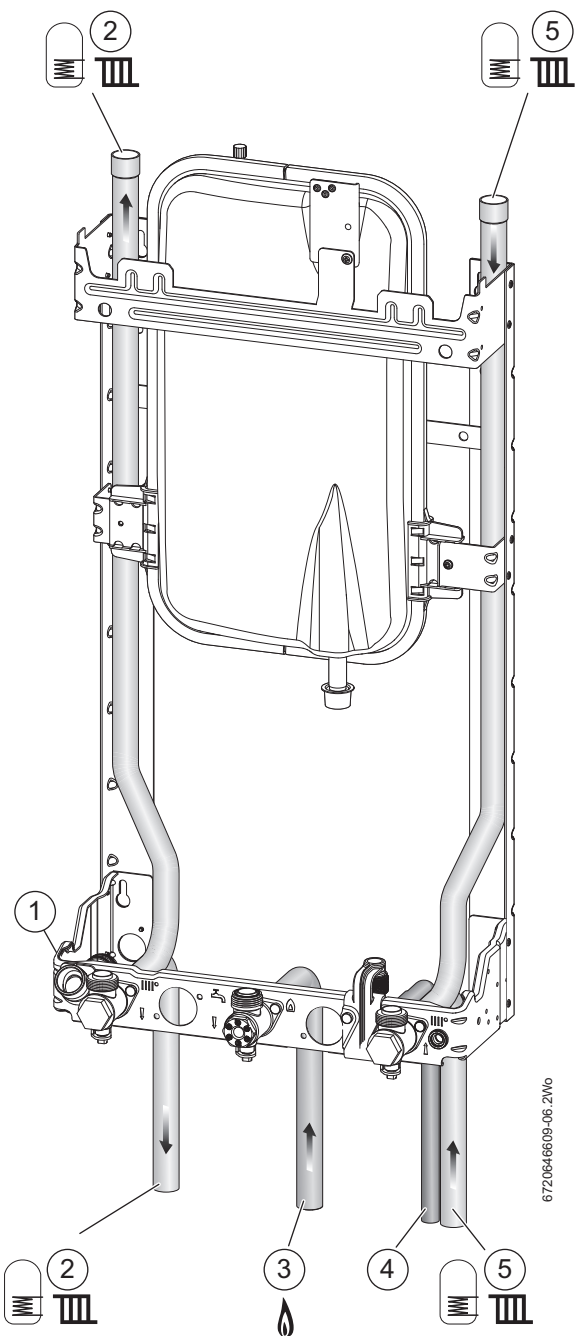

Fig. 15 Plumbing manifold
- If the boiler pipes are to be run behind the appliance ensure that the pipes pass either side of the expansion vessel as shown in figure 15.